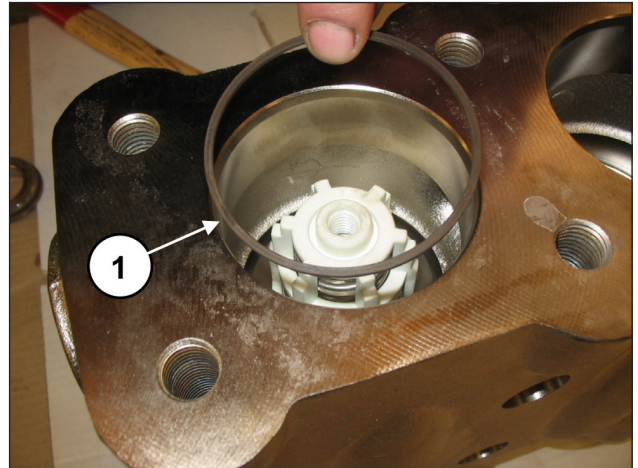

Fig. 120
Insert the anti-extrusion ring, exploded view pos. 18 (pos. ①, Fig. 120).